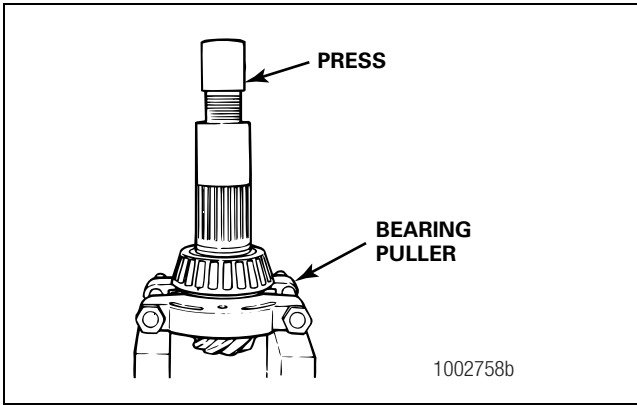

Figure 3.55
4. If necessary, remove the inner bearing cone from the drive pinion. Place a bearing puller under the inner race to support the bearing. Place a protector on top of the pinion shaft and press the drive pinion out of the bearing cone. Figure 3.55.